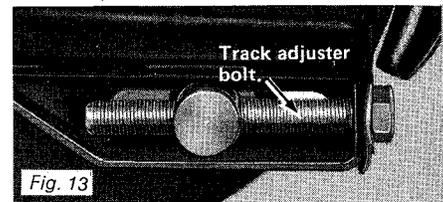

Fig. 13
1. Using wrench, loosen both track adjusters by unscrewing the lock nuts situated on the inner side of the suspension springs (See Fig. 13) and 14).